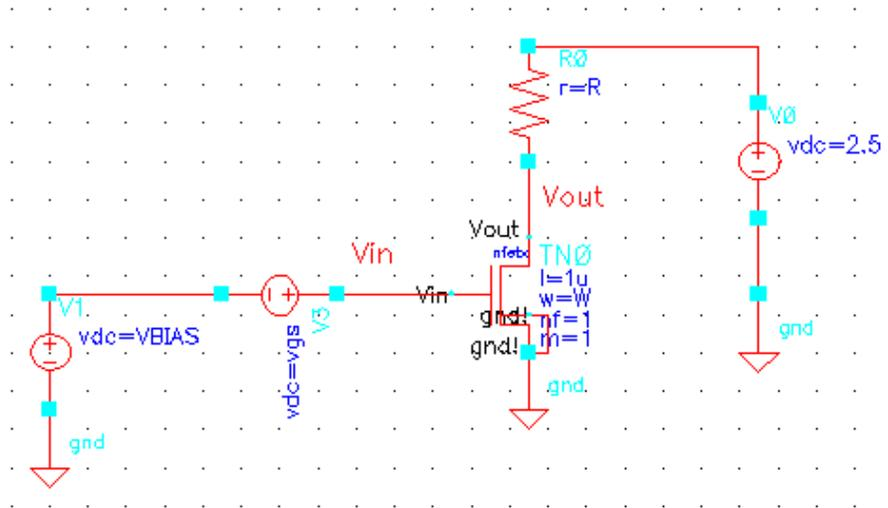

Fig 2. Schematic for Part 2
2) Now, replace the current source load with a resistor. Use an ideal resistor. This is located in the *analogLib* as the cell *res*. Your schematic should now look like *Figure. 2*. Determine the maximum gain for this configuration and the corresponding values of R (resistance), VBIAS, and W (Width). Remember, the transistor must be in saturation, with $V_{dsat} = .2$ V and $V_{ds} = V_{dsat} + 200$ mV. Again, do the same DC analysis that was done in Part 1. Change the design parameters after simulation if need be. Print out a copy of the DC operating point of the transistor. Find the gain, print the small signal input and output signals, and compare theoretical results to simulated results.